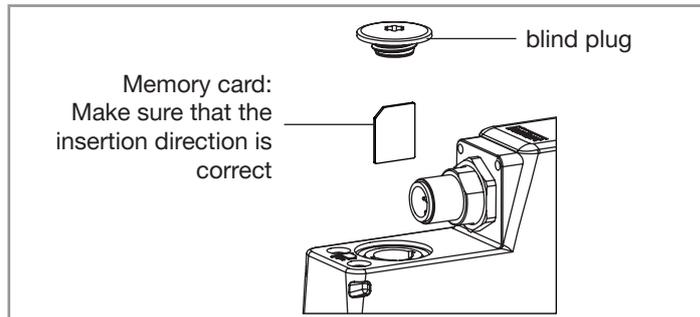

Fig. 26: Insertion direction of the memory card
- Pay attention to the insertion direction of the memory card. Refer to in Fig. 26.